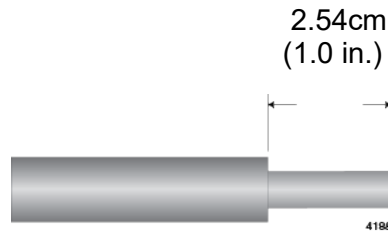

Figure 36. Stripping the Grounding Wire
1. Strip 2.54cm (1.0 in.) of insulation from the end of the solid grounding wire with a wire insulator stripper. Refer to Figure 36.